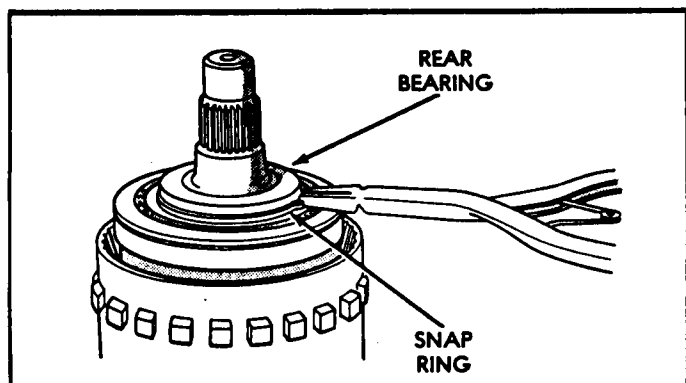

Figure 2
4. Install the ball bearing and snap ring on output shaft. Be sure locating ring groove in bearing is toward rear, as shown in Figure 2.